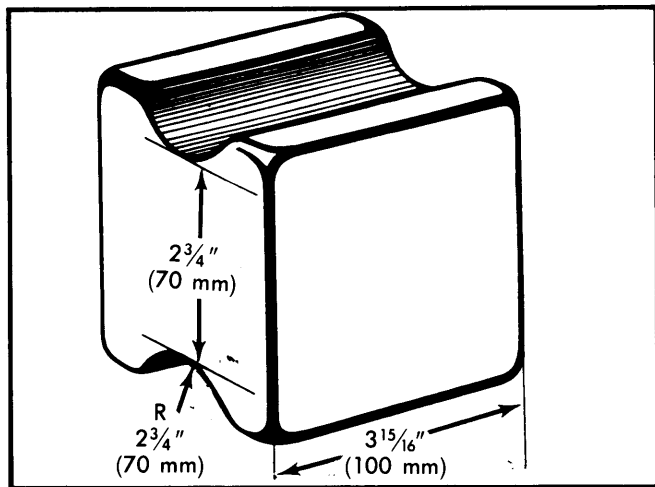

Fig. 1 Drive Line Support Block
2) Disconnect all wiring, hoses, lines, linkage and brackets from engine. On 924 Turbo, disconnect necessary parts of turbocharger and oiling system. On all models, disconnect exhaust pipe at manifold. Support drive line at front brace with wooden block. See Fig. 1.